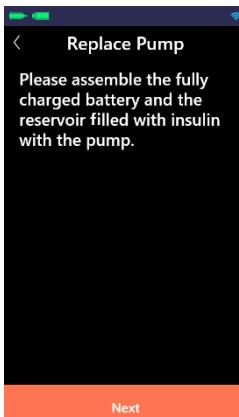

Figure A.9.3
(3) Please assemble the fully charged battery and the reservoir filled with insulin with the pump (as shown in Figure A.9.3). After the assembly is completed, please click "Next".